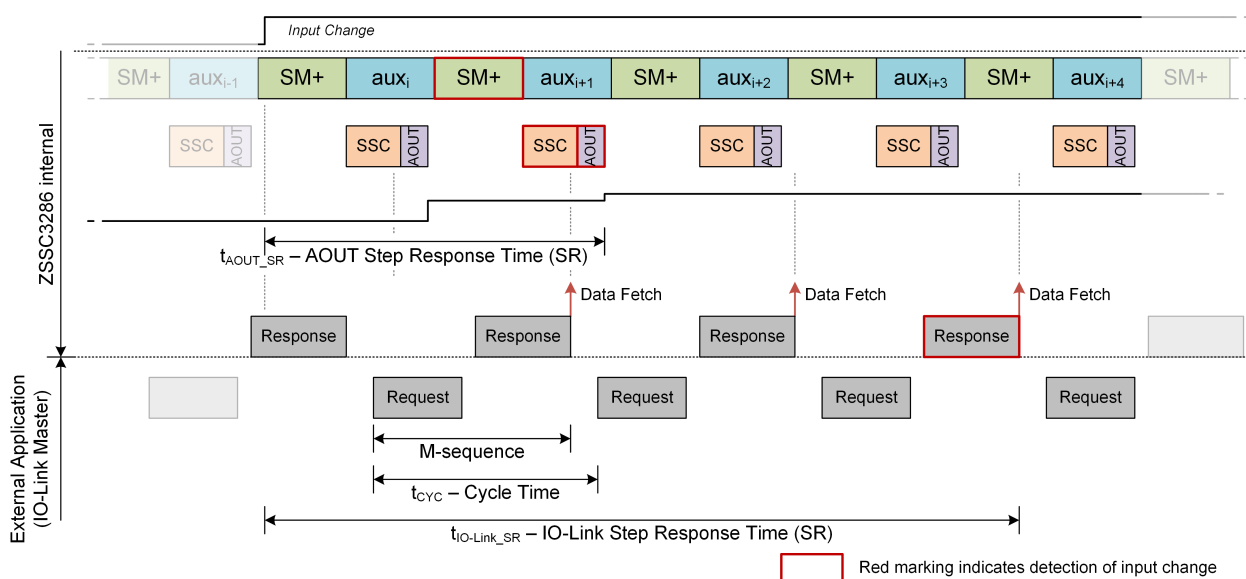

Figure 35. Measurement Flow and Latency for SM+/AZ Configuration
As shown in Figure 35, the worst-case latency consists of:
- SM+/AZ configuration: refer to Figure 35 and description for step response in section 5.8.4